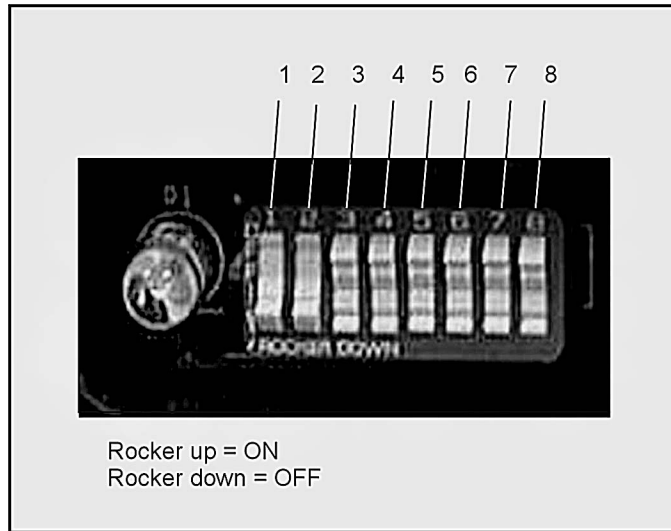

Figure 8: DIP switch (Set for 10 position universal platter)
2. Check and, if necessary, set the switch as needed (figure 8). Table 1 lists the selection options for the switch. Switches 1 through 3 define the platter size. All other settings beside those shown are undefined.